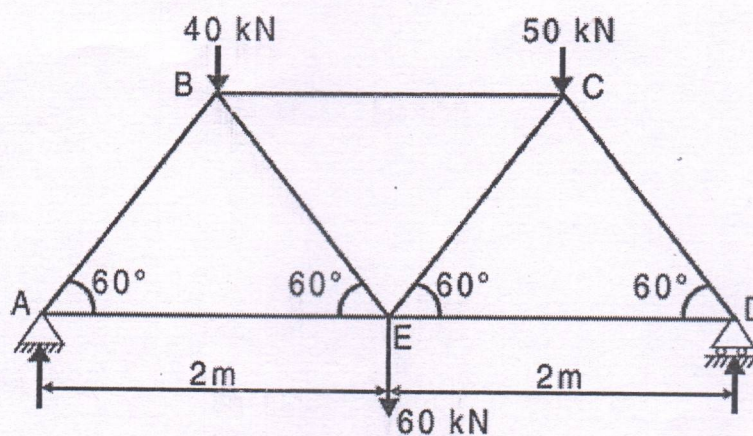

Fig. 4.1
1. Determine the forces in all the members of the truss shown in Fig. 4.1 and indicate the magnitude and nature of forces on the diagram of the truss. All inclined members are at  $60^\circ$  to horizontal and length of each member is 2 m.